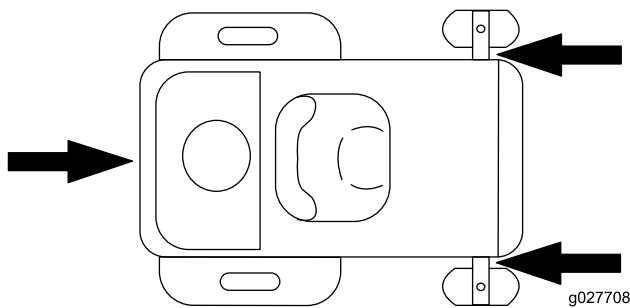

Figure 22
5. Tie down the machine near the front caster wheels and the rear bumper (Figure 22).